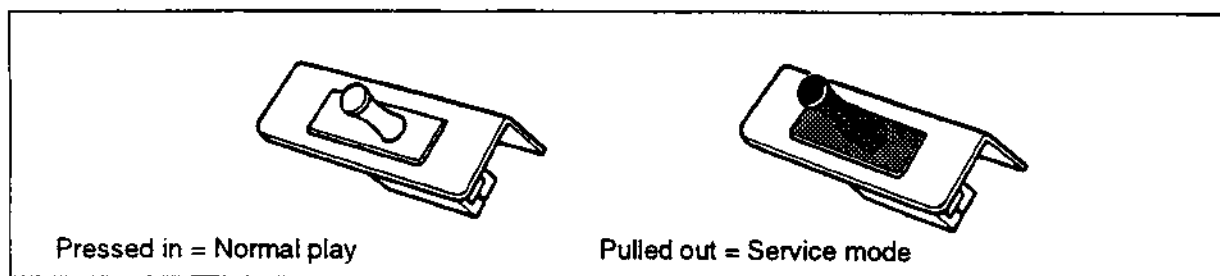

Figure 5: Positions of the service switch
- pull out the service switch (refer to fig.5)